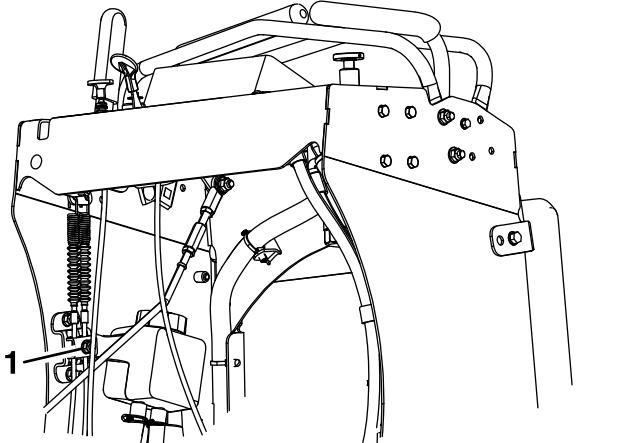

Figure 49
4. Loosen the cable clamp on the brake cables under the console (Figure 49).